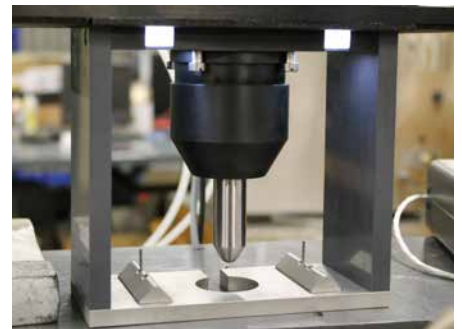

Figure D.5 - Upper portion of shroud attached to Load Cell
5. Once the load nose is secured, lift the upper portion of the shroud around it. Use the back two screws to guide it into place before tightening them and carefully screwing in the front two screws. See Figure D.5.